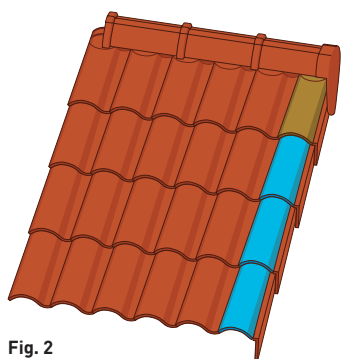

Fig. 2
4. The right section (vertical terminating end) of the roof can be finished by using either a Half (1/2) Tile (**Q16**) (**fig.2**) or a Double Tile (**Q33**) (**fig.3**).
5. For a faster installation and extra ridge ventilation, an Under Ridge Tile (**Q70**) (**fig.2**) and/or a Double Under Ridge Tile (**Q71**) (**fig.3**), is recommended when reaching the ridge line.